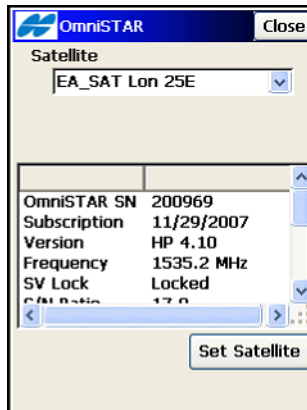

Figure 8-23. OmniSTAR HP Status
- **Status** – opens the OmniSTAR screen to view information on the OmniSTAR link and the receiver OmniSTAR board (Figure 8-23 on page 8-23).